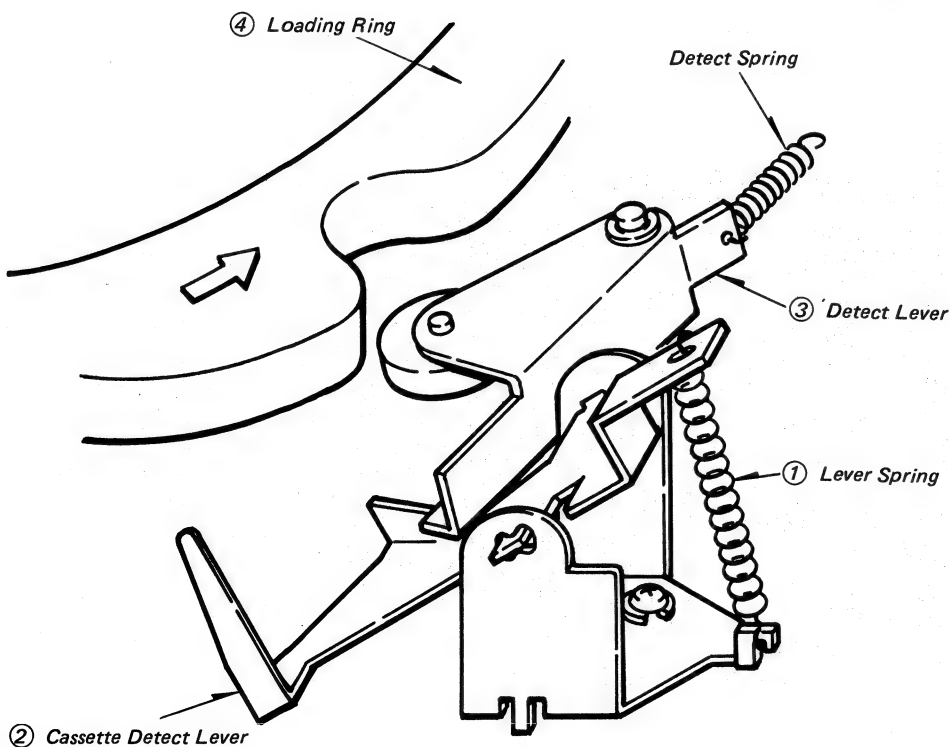

Fig. 5-5 Detecting Arrangement with Cassette
(B) With Cassette (as shown in Fig. 5-5)
- 1) Cassette detect lever ② is depressed by the weight of cassette.
- 2) Detect lever ③ is released and its roller gets out of dent by the force of detect spring.